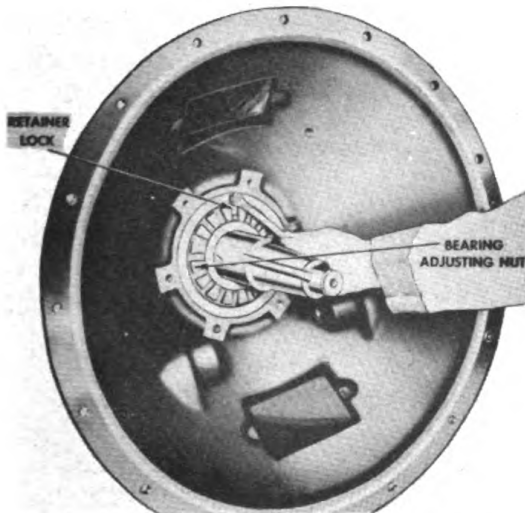

Figure 307. Removing Bearing Retainer Lock Capscrew.
C. Remove the bearing retainer lock cap-screws from the bearing retainer. See Figure 307.